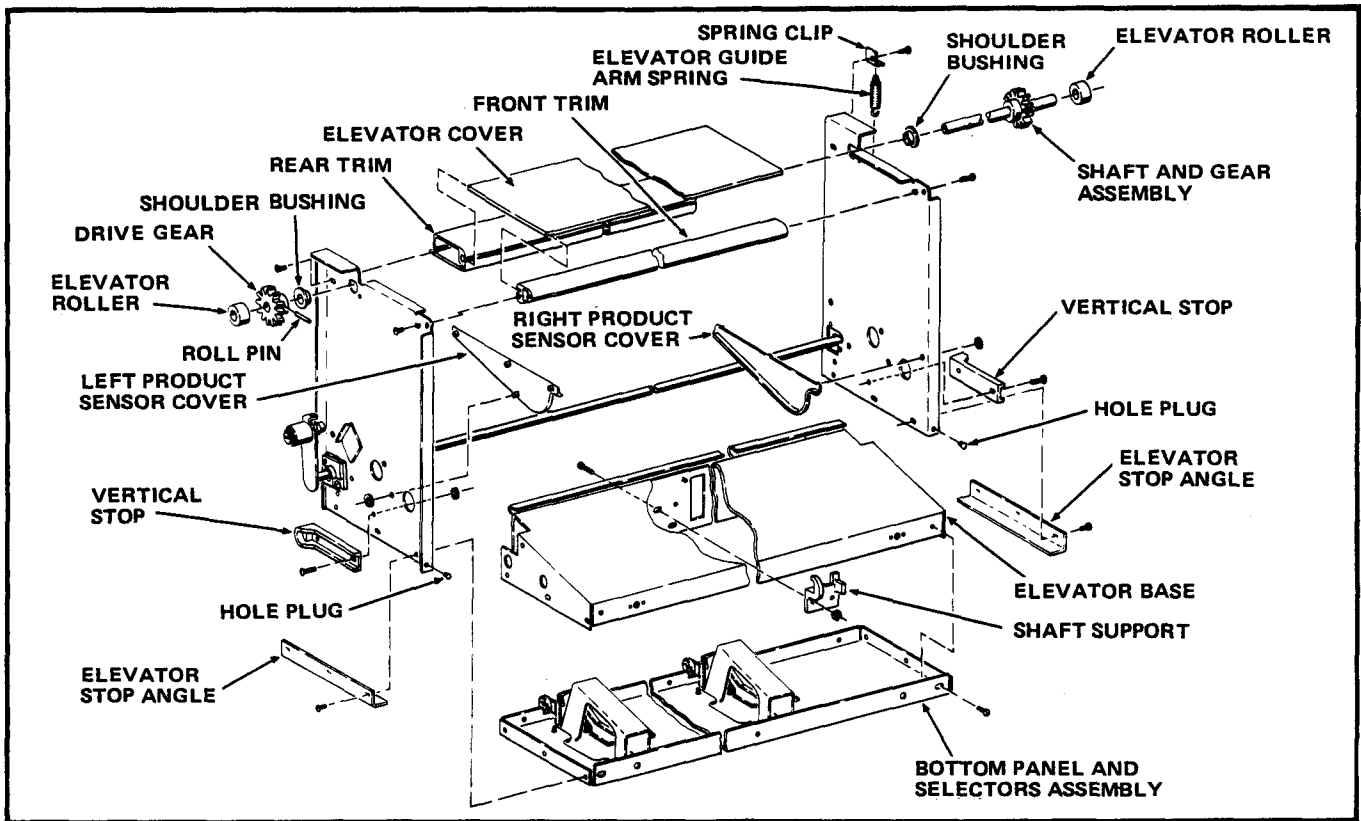

FIGURE 2
2. Remove the two Elevator Rollers from the Elevator Shaft. See Figure 2.
3. Using a 1/8" Pin Punch, remove the Roll Pin attaching the left Drive Gear to the Elevator Shaft. See Figure 2.
4. Pull the Elevator Shaft and Gear Assembly out of the Elevator Assembly. See Figure 2.
5. Remove the two Shoulder Bushings from the Left and Right Elevator Sidewalls. See Figure 2.
6. Disconnect the Elevator Guide Arm Spring from the Spring Clip and the Right Elevator Guide Arm and remove from the Elevator Assembly. See Figure 2.
7. Remove six attaching Screws and the two Elevator Stop Angles from the Left and Right Elevator Sidewalls. See Figure 2.
8. Remove thirteen attaching Screws and the Bottom Panel and Selectors Assembly from the Elevator Assembly. See Figure 2.
9. Remove two attaching Screws and Nuts and the Shaft Support from the Elevator Base. See Figure 2.
10. Remove four attaching Screw and Nuts and the two Vertical Stops from the Left and Right Elevator Sidewalls. See Figure 2.
11. Remove eight Push-on Retainers and the Left and Right Product Sensor Covers from the Elevator Sidewalls. See Figure 2.
12. Remove two Screws attaching the Elevator Base to the Elevator Sidewalls and pull the Base free of the Arm and Shaft Assembly. See Figure 2.
13. Remove four attaching Screws and the Front Trim from the Elevator Sidewalls. See Figure 2.
14. Remove the Elevator Cover. See Figure 2.
15. Remove one attaching Screw and the Spring Clip from the Right Elevator Sidewall. See Figure 2.
16. Remove three attaching Screws and the Rear Trim from the Elevator Sidewalls. See Figure 2.
17. Remove the two plastic Hole Plugs from the holes in the lower front of the Elevator Sidewalls. See Figure 2.